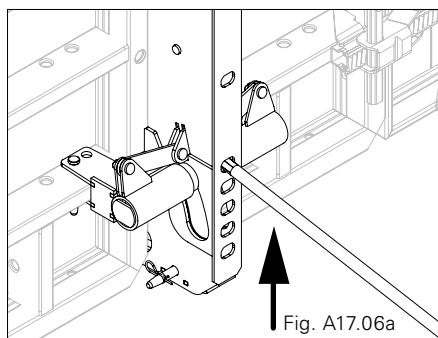

Fig. A17.06a
3. Tension slightly and bring the shaft element into striking position with crowbar. Push crowbar upwards. (Fig. A17.06a + A17.06b)